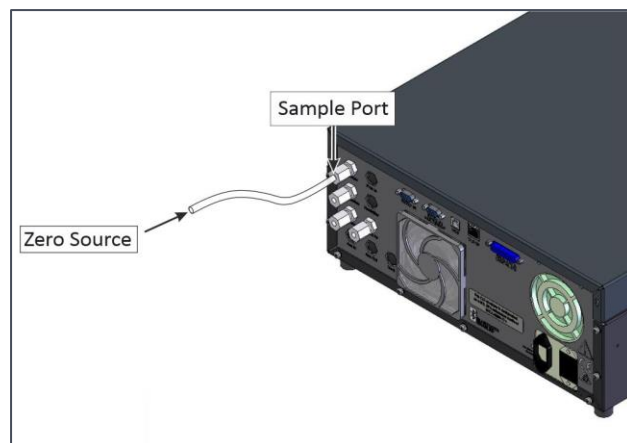

Figure 117 – Zero Calibration Set-up - 2
1. Refer to Figure 117. Ensure a suitable zero air source is connected to the **Sample Port**.